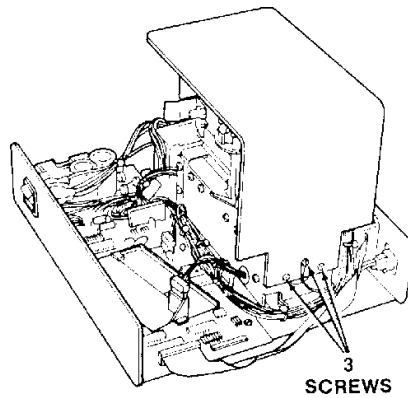

Figure 17. Top Cover Removal
- 6.1.8 Remove the top cover by removing the three screws holding it to the printer mechanism (See Figure 17).